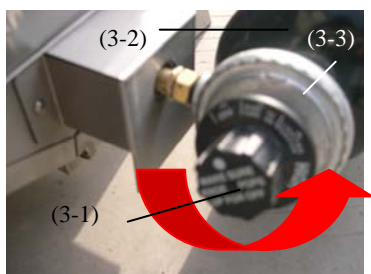

Fig. 3
5. Be sure gas control knob (3-1) is in the "OFF" position. Check to make sure threaded areas on cylinder and regulator are clean. Screw the propane cylinder (3-2) onto the regulator (3-3) making sure to engage threads correctly to achieve proper connection. To remove the propane cylinder (3-2) unthread the cylinder from the regulator (3-3) as shown in fig.3